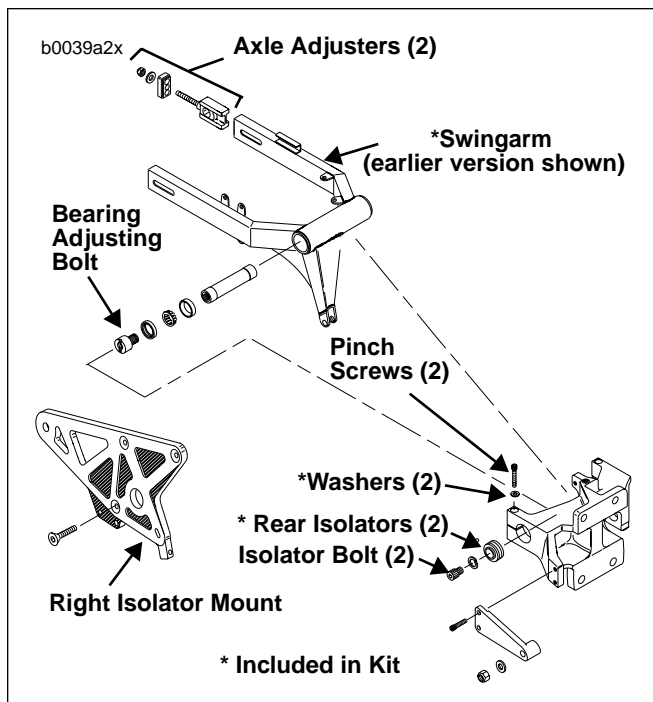

Figure 15. S2/S2T Swingarm Assembly
All 1995 S2 and early production 1996 S2 and S2T models have an earlier version of the swing arm with a raised brake stop (as opposed to the cutout of later models) and welded, angled corners (as shown in Figure 15).
Perform Step 5 only on early production S2/S2T models (that are equipped with the earlier version swing arm as shown in Figure 15). Otherwise go to step 6.
- See Figure 15. Loosen right side mount block pinch bolt.
- Early production S2/S2T models (with earlier swing arm shown in Figure 15):**
12. See Figure 15. Install isolator bolt and washer through rubber isolator and into bearing adjustment bolt. Do not tighten.
18. See Figure 15. Install isolator bolt and washer through rubber isolator and into bearing adjustment bolt. Do not tighten.
25. See Figure 15. Apply LOCTITE ANTI-SEIZE to inner portion of ends of swingarm where axle adjusters will be. Install original axle adjusters to **new** swingarm.